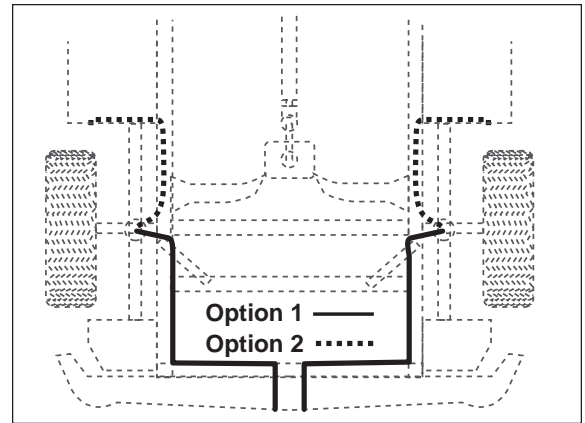

Figure 6
3. Select a location for the inflation valves in the rear bumper area or rocker panel flange ensuring that each valve will be protected and accessible with an air hose (Figure 6).